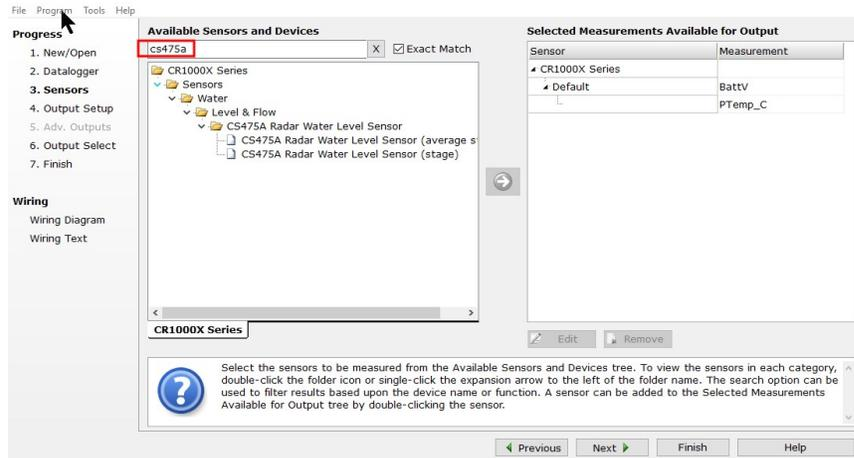
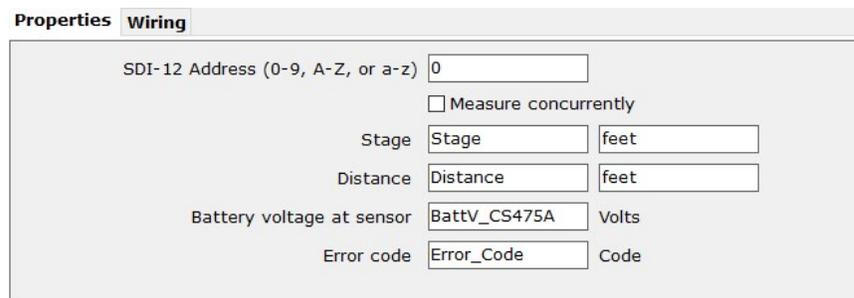
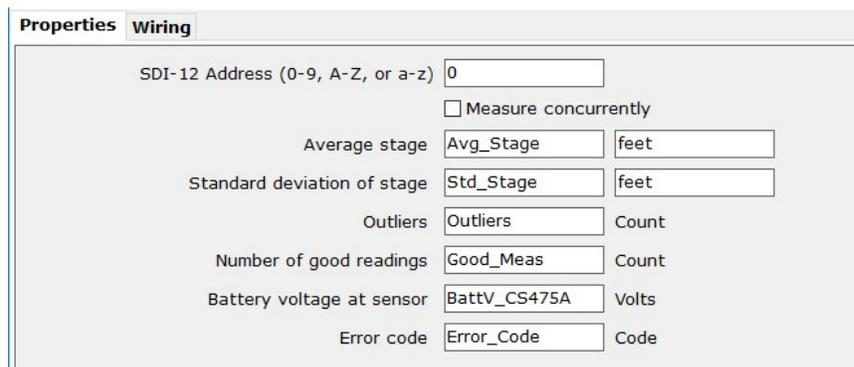

FIGURE 4-1. *Short Cut*, Sensor Selection
FIGURE 4-2. *Short Cut*, CS475A Stage Properties
FIGURE 4-3. *Short Cut*, CS475A Average Stage Properties
3. In the search box under the **Available Sensors and Devices** heading, start typing CS475A, or find the sensor in the **Sensors > Water > Level & Flow > CS475A Radar Water Level Sensor** folder. Double-click **CS475A Radar Water Level Sensor (average stage)** or **CS475A Radar Water Level Sensor (stage)** (FIGURE 4-1 (p. 3)). The **CS475A (stage)** measurement issues the **M!** command and collects four values (stage, distance, battery voltage at the sensor, and error codes) (FIGURE 4-2 (p. 3)). The **CS475A (average stage)** issues the **M1!** command and completes a NOAA PORTS measurement; the user must configure the sensor for the number of measurements included in the average (FIGURE 4-3 (p. 3)). **SDI-12 Address** defaults to **0**. Enter the correct **SDI-12 Address** for the radar sensor if it has been changed from the factory default value. Default units for stage and distance measurements are in feet. Change the units to **Metre** if the **System Units** have been changed to metres.